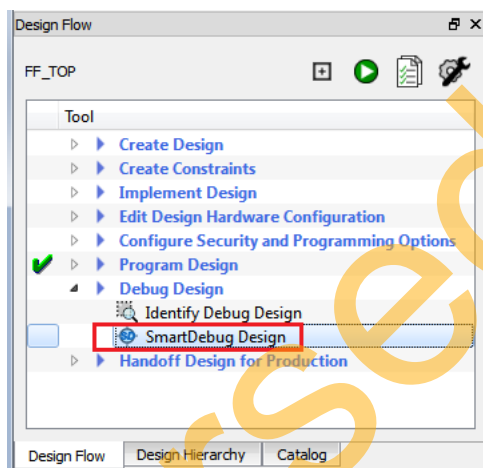

Figure 10 • Launching SmartDebug Design Tools
1. Check the content of the SRAM before entering into the F*F mode. While the device is in Active Mode (non F*F), double-click the SmartDebug Design entry from the Design Flow window as shown in Figure 10.